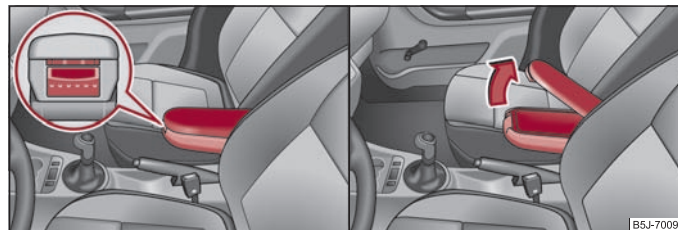

Fig. 85 Armrest: Storage compartment / open storage compartment
- Press the bottom button on the face end of the armrest ⇒ fig. 85 on the left. Fold the armrest forwards and release the button. ►
- Press the top button and fold up the cover of the storage compartment ⇒ page 77, fig. 85 on the right.